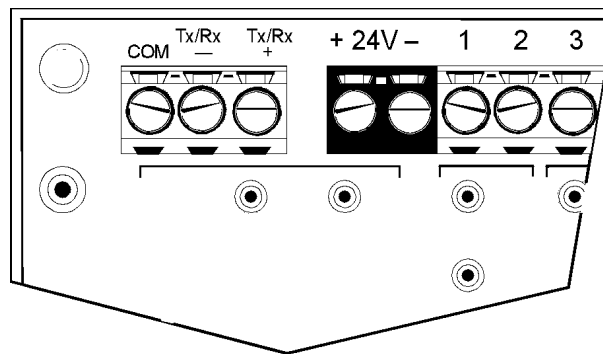

FIGURE 5: CONNECTING POWER TO THE G4D32RS
4. Refer to Figure 5 and insert the power supply's "+" wire into the "+24V" terminal and the power supply's "-" wire into the "-24V" terminal. Tighten down each wire by turning the power terminal screw clockwise. Make sure the terminal block is clamping the wire and not the insulation.